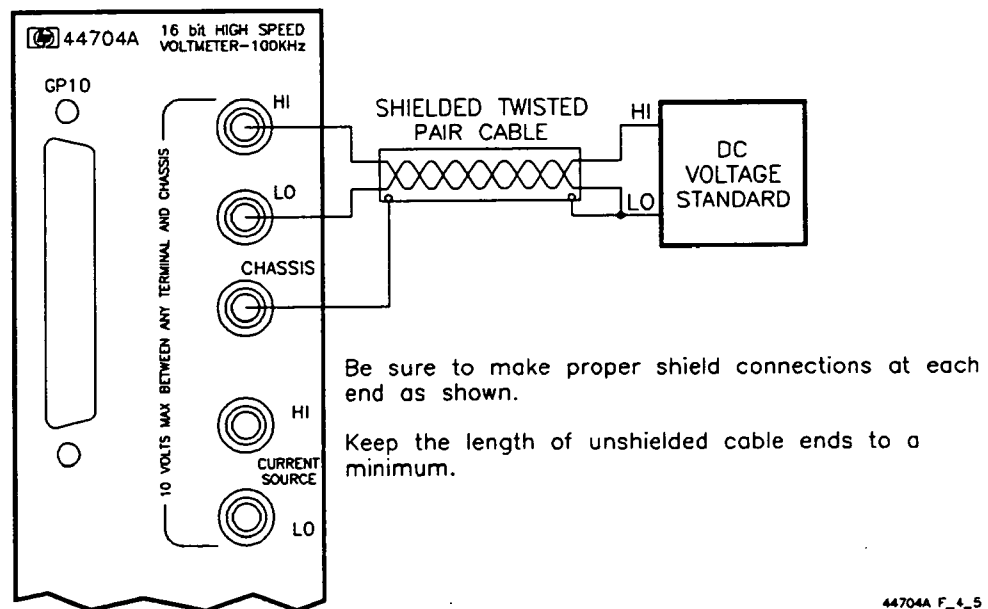

Figure 4-5. DC Voltage Gain/Linearity Test Setup
1. Connect the DC Standard to the voltmeter terminals as shown in Figure 4-5.